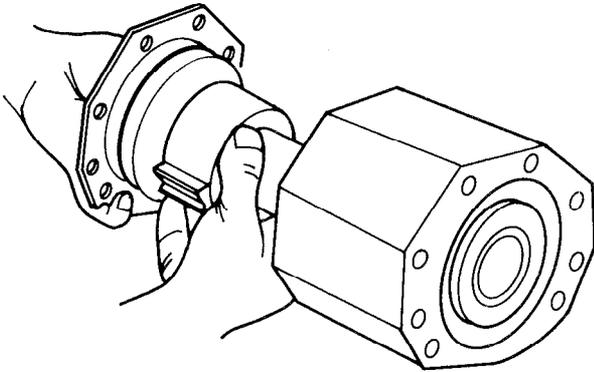

Figure 298 — Output Shaft — Removal
- d. Carefully withdraw the output shaft, and cover from the housing (see Fig. 298), then remove the output shaft from the cover. Remove and discard the O-ring from the cover.